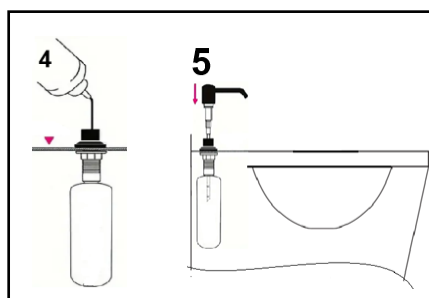

Fig.11
- Pour liquid soap in the bottle, insert the "flat end" of pump tube/straw into the pump and insert the dispenser set into the bottle (Fig.11).